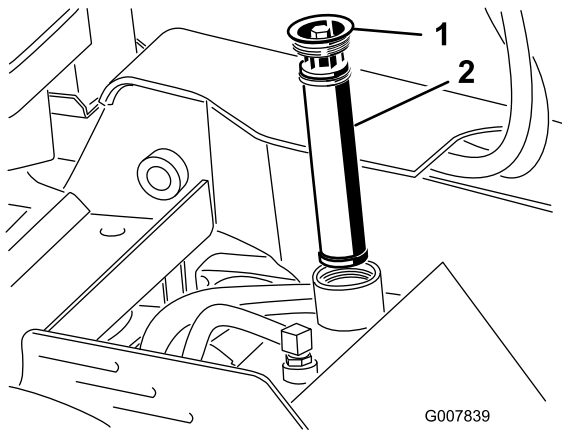

Figure 56
5. Clean the area around the filler neck of the hydraulic tank and remove the cap and filter from the filler neck using a socket (Figure 56).
5. Remove the hydraulic-tank filler cap and filter (Figure 56).
10. Install the hydraulic filter and filler cap (Figure 56) and torque the bolt on top to 13 to 15.5 N·m (110 to 140 in-lb).